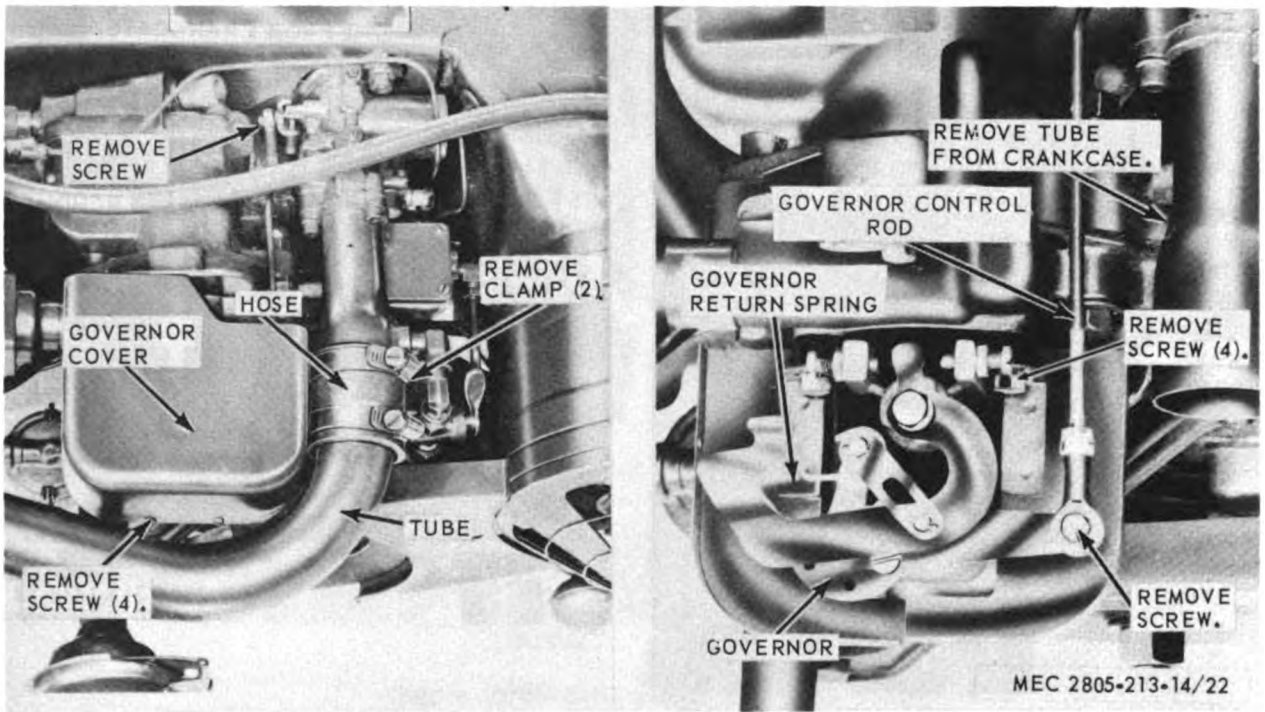

Figure 3-12. Governor cover, throttle control rod, and governor, removal and installation (Model AO4S-KM).
a. Removal (Model AO42-KM). Refer to figure 3-12 and remove the governor cover, throttle control rod, and governor.
e. Instalaltion. (Model AO42-KM). Refer to figure 3-12 and install the governor cover, throttle control rod, and governor.
- (1) Remove the governor cover as described in *a* or *b*, above.